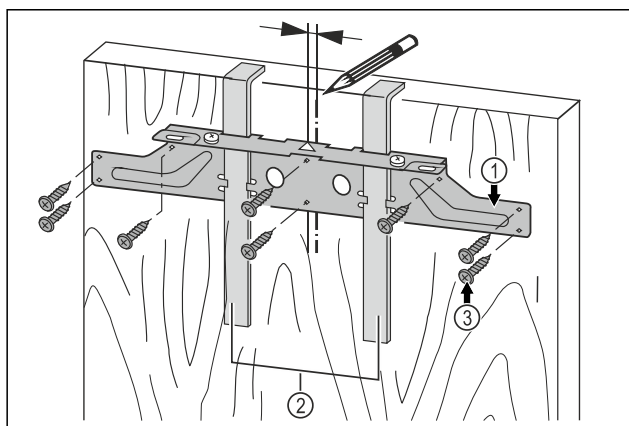

Fig. 21
- Align the fastening crossbeam Fig. 21 (1) in the center of the door.
- Left piping: Move the fastening crossbeam Fig. 21 (1) 6 mm (1/4 in) to the left.
- Right piping: Move the fastening crossbeam Fig. 21 (1) 6 mm (1/4 in) to the right.